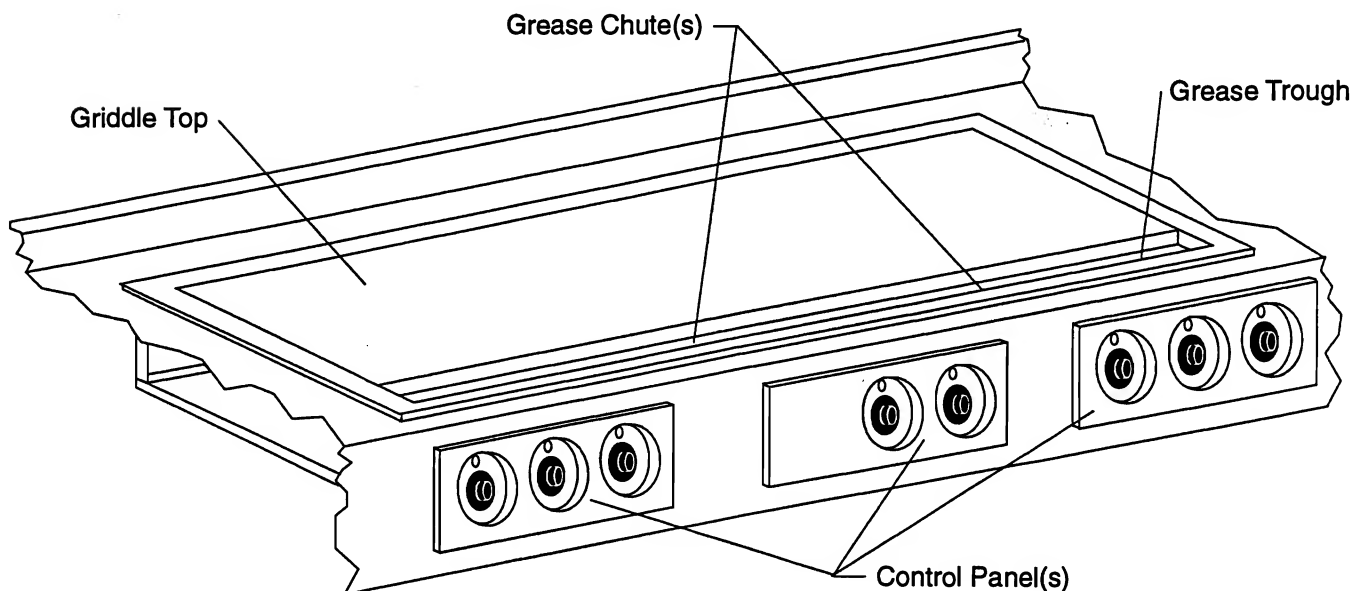

Figure 3-1. Typical Wendy's 7072WH Griddle Controls & Components
I. COMPONENT FUNCTION AND LOCATION (Figure 3-1)